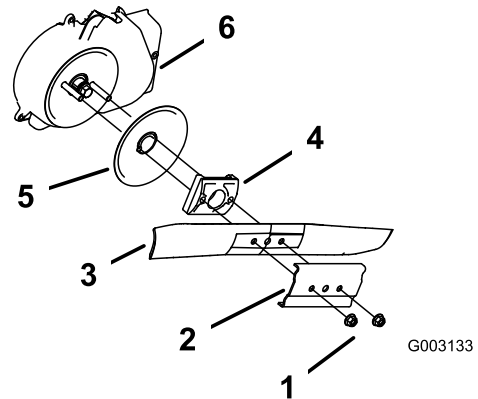

Figure 28
3. Remove the 2 blade nuts and the stiffener (Figure 28).
4. Remove the blade (Figure 28).
5. Remove the blade driver and disk (Figure 28).
6. Remove the blade brake-clutch shield (Figure 28).
10. Install the blade and the stiffener that you previously removed (Figure 28).